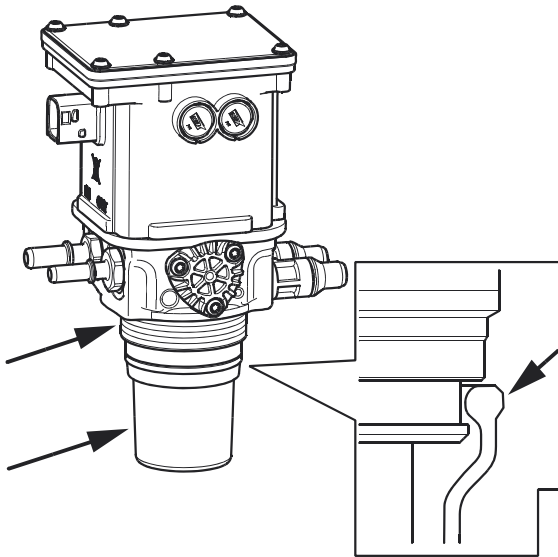

Figure 5 Lubricate Diaphragm and Threads
12. Lubricate the sealing diaphragm and threads with the accompanying spray. See Figure 5.